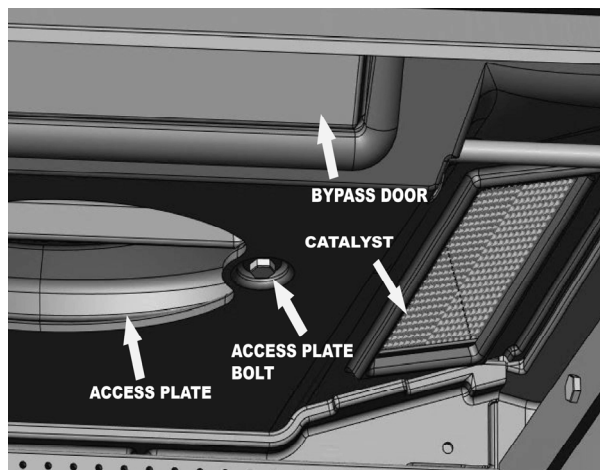

Figure 32– Access Plate and Catalyst Detail Half (left side shown)
3. When the baffle is removed, the face of the catalysts are exposed for inspection. See Figure 32.